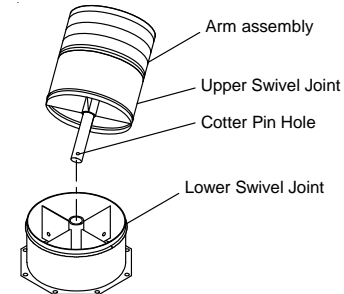

Fig. 1
2. Mount the hose assembly to the unit. Insert the shaft into the lower swivel joint. The flexible hose must be pulled back. Insert the cotter pin (supplied) by reaching through both swivel joints to the underside of the lower swivel joint (Fig. 1)